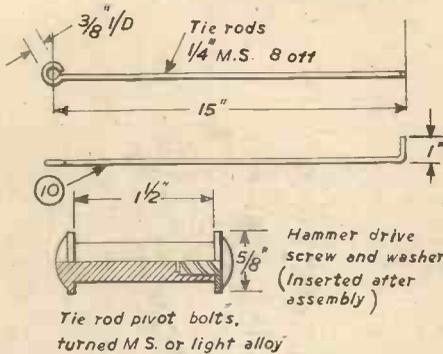

Fig. 5.—Details of the tie rods and pivot bolts.
through holes in the leg. Thread on the second tie-rod, and hammer a drive screw in the open end of the bolt, after placing a washer under the head (Fig. 5). A rack (12) composed of eight 18 in. lengths of  $\frac{3}{16}$  in. mild steel rod enclosed in a frame member of